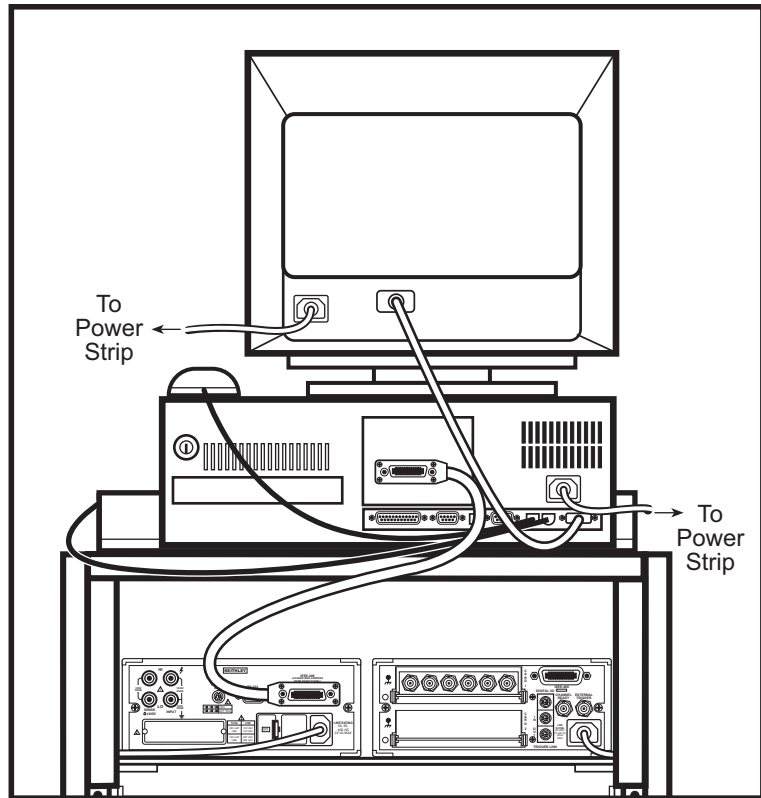

Figure 3-17 Computer Connections
The computer connects the same way regardless of system instrumentation (see **Figure 3-17**).
4. Connect the IEEE-488 cable to the IEEE-488 port on the back of the computer. A typical connection is shown in **Figure 3-17**.